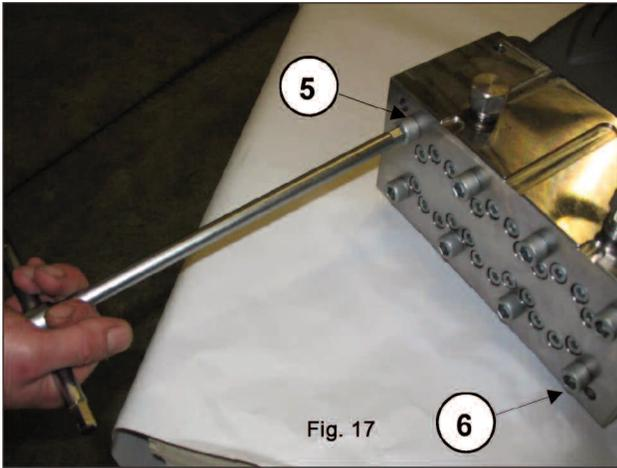
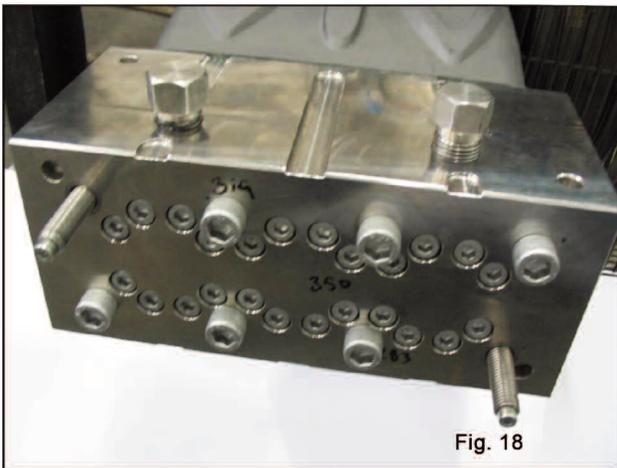

Fig. 17
Fig. 18
- Unscrew the M12 x 260 head fixing screws No. 5 and No. 6 as shown in fig. 17 replacing them with two service pin-screws (p/n F27508200) as shown in fig. 18, then remove the remaining screws.